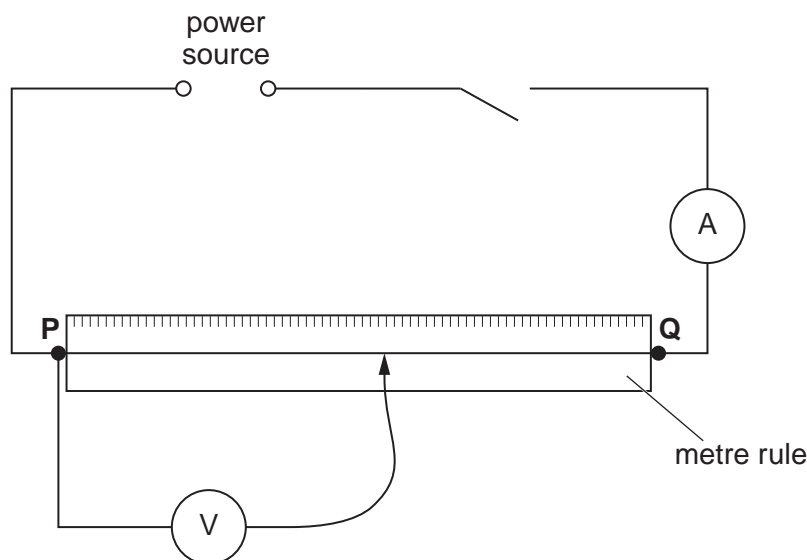

Fig. 3.1
- (vi) Two suitable terminals (e.g. crocodile clips) attached to the constantan wire at ends P and Q of the metre rule, so that connections can be made to the circuit shown in Fig. 3.1 (see note 2).
- (viii) Sufficient connecting leads to set up the circuit shown in Fig. 3.1.
1. The circuit must be set up for the candidates as shown in Fig. 3.1.
Check that the circuit is as shown in Fig. 3.1.